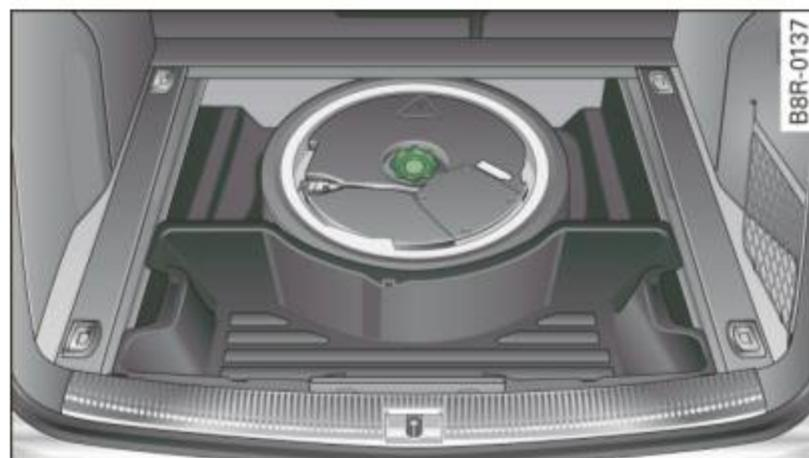

Fig. 218 Inflatable spare tire with compressor
- Turn the large screw ⇒ fig. 218 counter-clockwise.